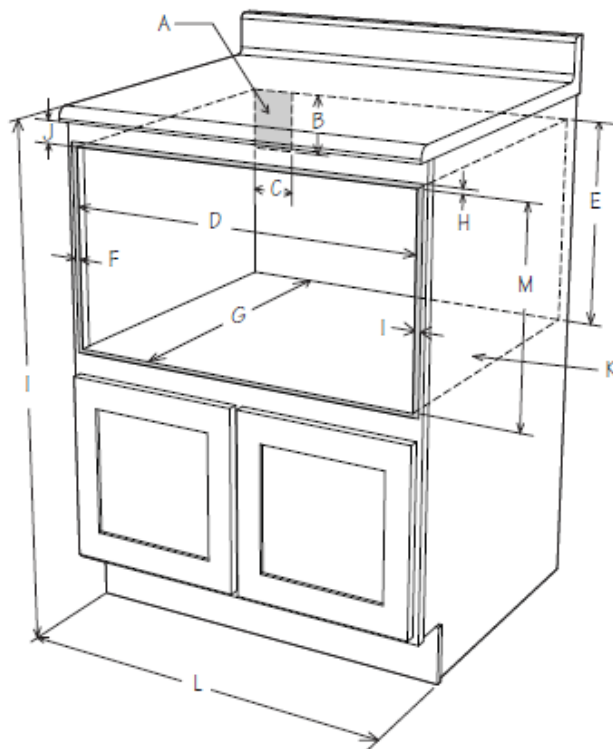
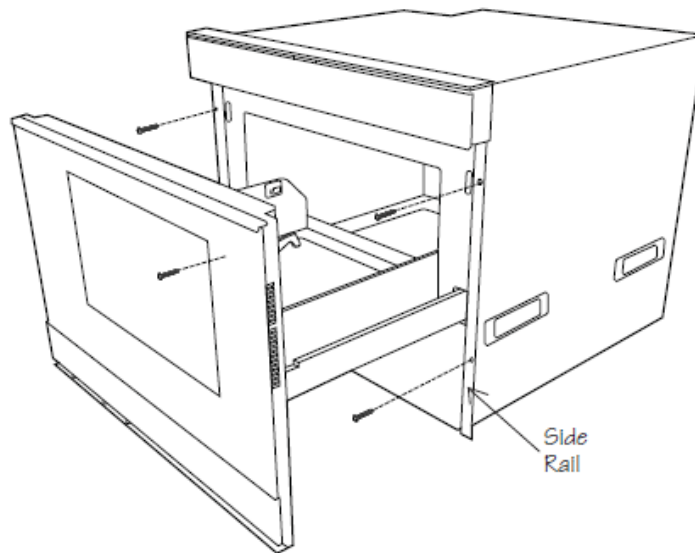

Figure 1
Figure 9
For SAFETY CONSIDERATIONS do not install drawer in any combustible cabinetry, which is not in accord with the stated clearances and dimensions on pages 2 – 4. See Figures 1 – 7.
- Dimensions that are shown in Figure 1 must be used. Given dimensions provide minimum clearance. Locate electrical outlet in the shaded area in the upper left-hand corner of the cutout. See Figure 9.
Figures 1 and 2 contain many Convection Microwave Drawer measurements for reference when planning the drawer's location. * Can also be installed using an electrical outlet in an adjacent cabinet within the area where the provided electrical cord can reach. Power cord access hole in cabinet should be a minimum 1 1/2" diameter hole and deburred of all sharp edges.
3. Slide the Convection Microwave Drawer all the way until the mounting flange is flush with the face of the cabinet. See Figure 9.
4. Open the drawer. Using the 4 holes on the drawer as a template, pre-drill the cabinet using a 1/16" bit. See Figure 9.